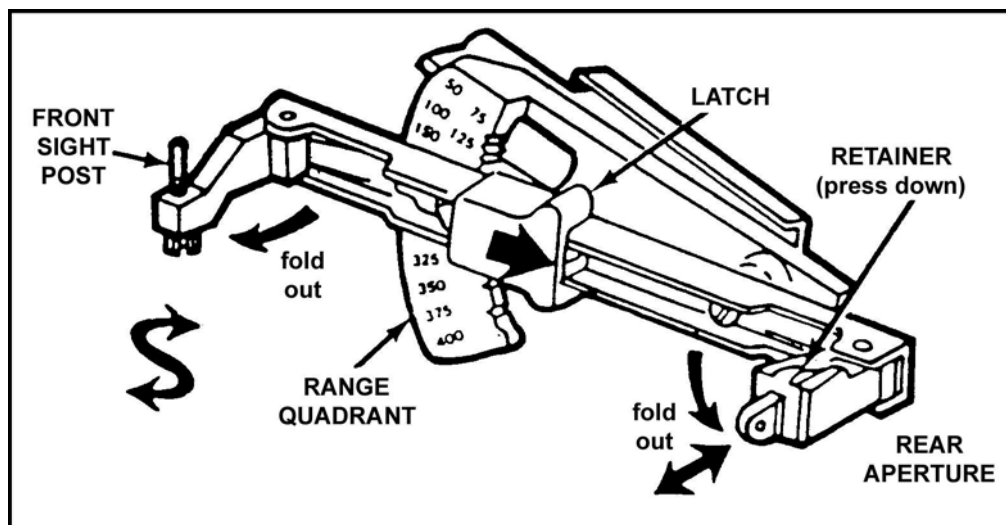

Figure 5. Quadrant sight.
- (1) Turn the windage adjustment screw clockwise to adjust for wind from the left.
- (2) Turn the windage adjustment screw counterclockwise to adjust for wind from the right.
10. Adjust the quadrant sight if necessary (Figure 5).